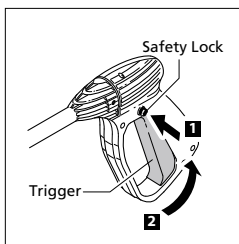

Fig. 4
- To lock the trigger of the spray gun aim the spray gun away from you and push the lock button from left to right, (Fig. 4) after doing so, squeeze or pull the trigger to make sure it is locked and will not move. Get in the habit of leaving the lock button in the "locked" position when the power washer is not in use. This ensures the gun is in "safe" mode until it is ready for use.